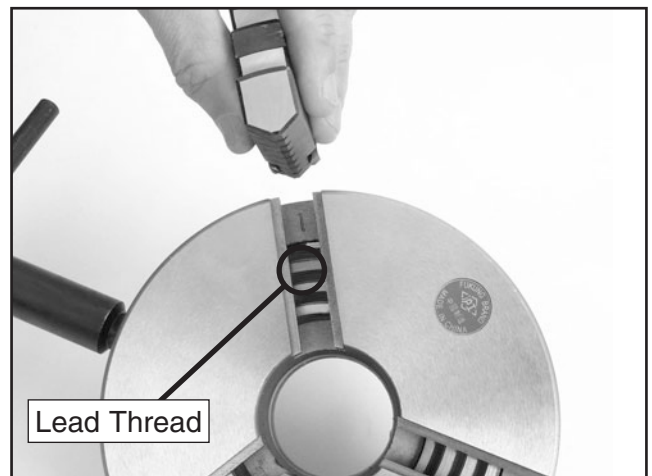

Figure 36. Lead thread on scroll gear.
6. Rotate the chuck key clockwise until you see the tip of the scroll-gear lead thread just begin to enter jaw guide #1 (see **Figure 36**).